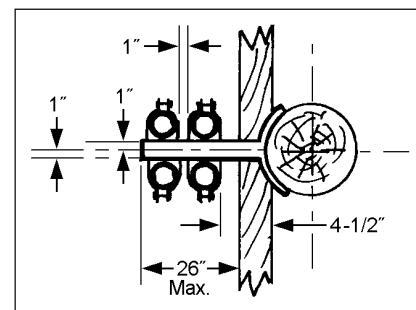

Figure 2.4
- 2.4. It is preferable to limit the number of conduits to two on a pole, but if more than two are required, they shall be installed as in Fig. 2.4. If two voltages are involved, the higher voltage shall be placed next to the pole.